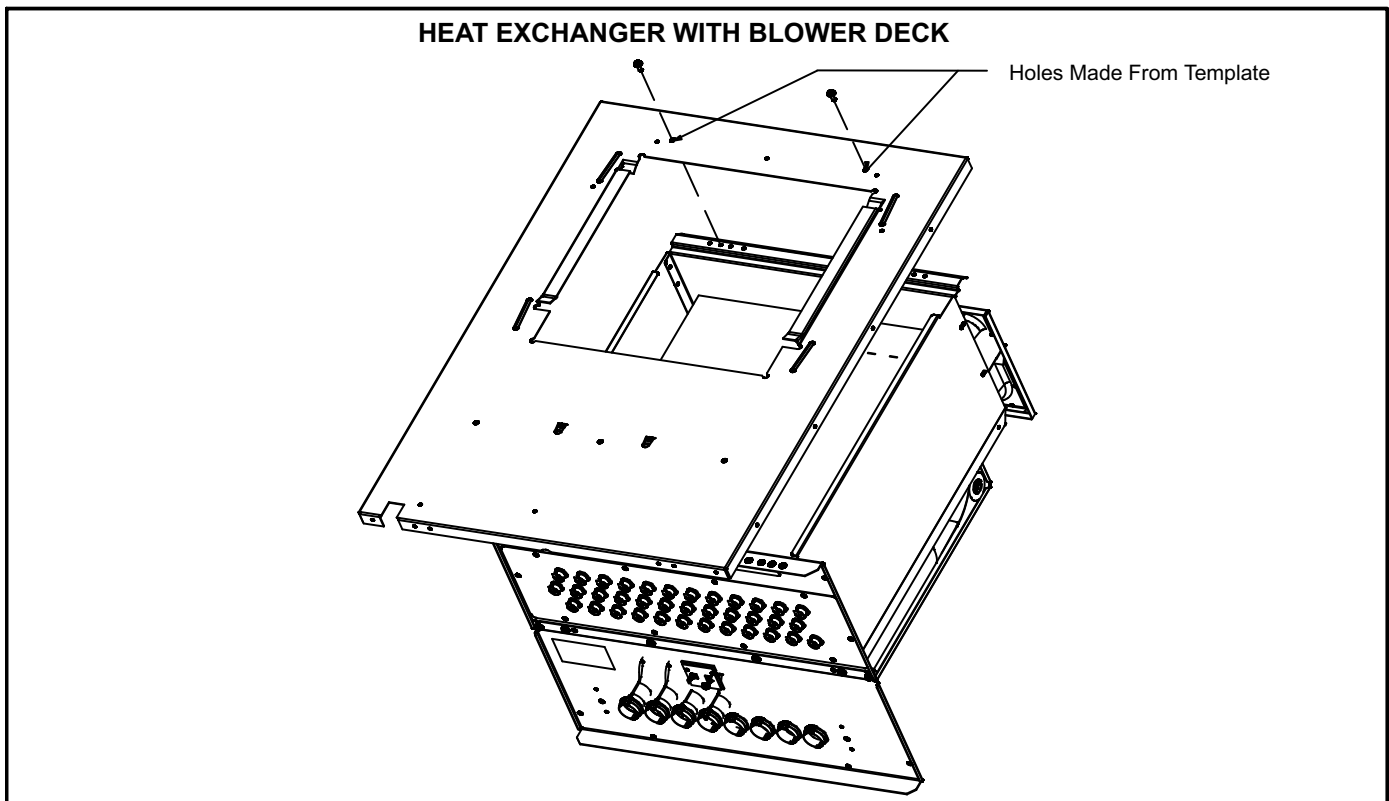

FIGURE 4
- 25 - Secure Heat exchanger to the blower deck using two #8 screws through blower deck first. See figure 4.